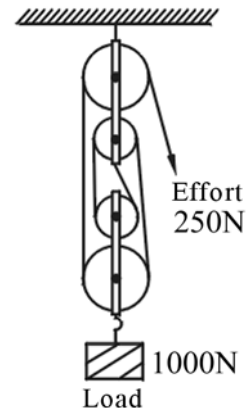

Fig. 4 Block and tackle system
Refer to the block and tackle system in Fig. 4, if the load needs to be raised by 1 m, the effort has to be pulled 4 m downwards. Therefore, the moving velocity for both load and effort is not the same. Velocity Ratio (VR) is the ratio of the distance moved by effort ( $d_E$ ) to the distance moved by load ( $d_L$ ). It does not have any unit.
For instance, in Fig. 4, when the load is raised by 1 m, the effort has to pulled the string by 4 m downwards. Therefore, the velocity ratio for the block and tackle system is: